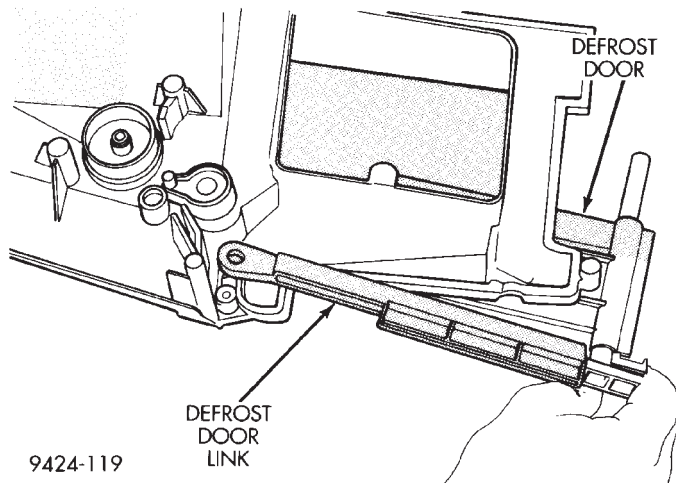

**Fig. 81 Defrost Door And Link**
(25) Remove link and defrost door from housing (Fig. 81).